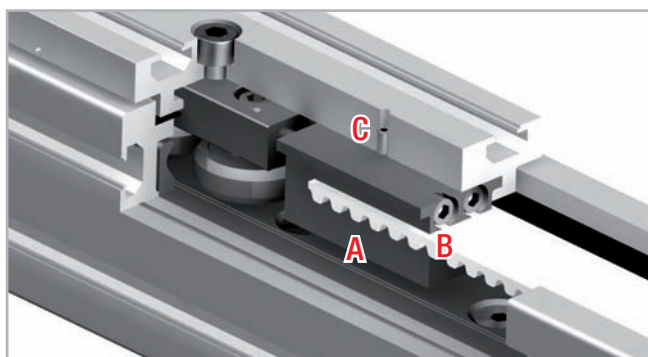

Fig. 41
1. Unscrew the safety screws C (on top of the slider plate) from the belt tensioning device A (see fig. 41).